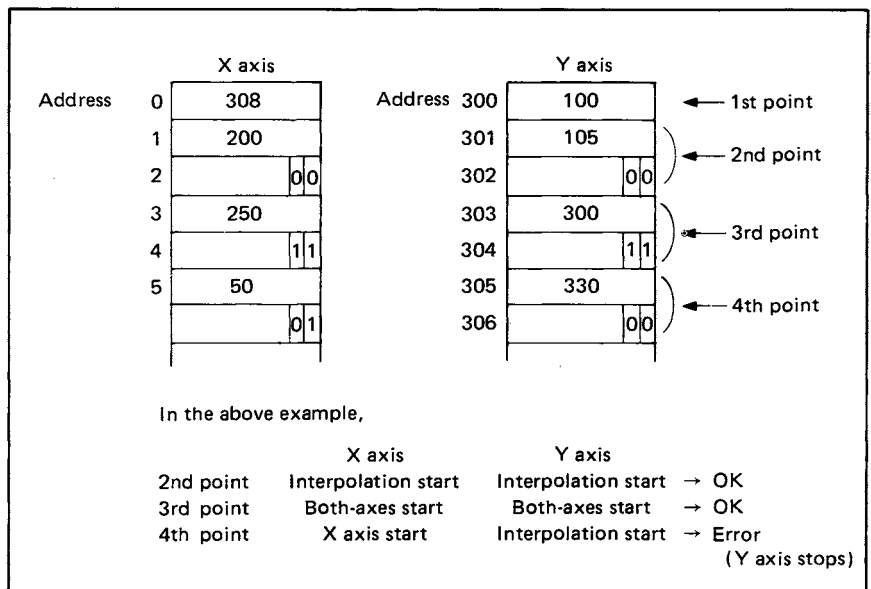

Fig. 3.26 Start Data Example 1
- 1) When both axes are to be started together (i.e. interpolation setting 00 or independent setting 11) ensure that the start axis data matches for both X and Y axes at that point. Processing will stop if the data does not match. Refer to Fig. 3.26.